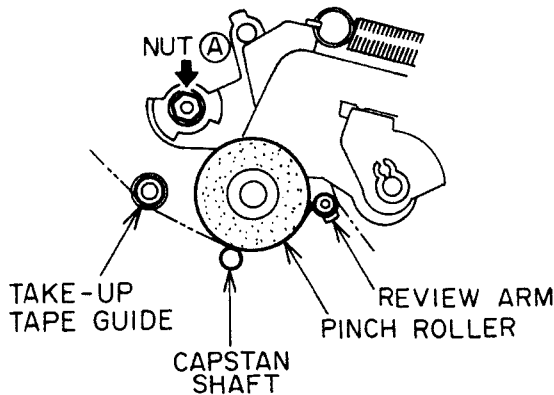
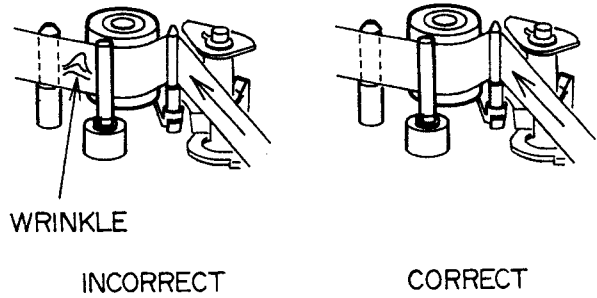

Fig. 4-6
Fig. 4-8
- 2) Turn the REVIEW ARM height  $\text{\textcircled{A}}$  nut so that the edge of the tape barely touches the lower part of the TAKE-UP TAPE GUIDE, without any curl or wrinkle between the TAKE-UP TAPE GUIDE and the CAPSTAN SHAFT as shown in Fig. 4-6 to Fig. 4-8.
- 4) Confirm there is no curl or wrinkle near the REVIEW ARM's guide. If curl or wrinkle of the tape occurs, slightly turn the  $\text{\textcircled{A}}$  nut (Shown in Fig. 4-6) until it disappears.